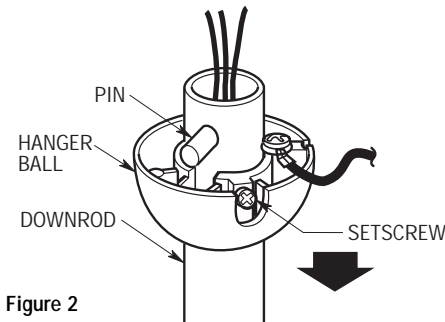

Figure 2
- 2. Remove the hanger ball from the downrod by loosening the setscrew in the hanger ball until the ball falls freely down the downrod (Figure 2). Remove the pin from the downrod, then remove the hanger ball. Retain the pin and hanger ball for reinstallation in step 8.